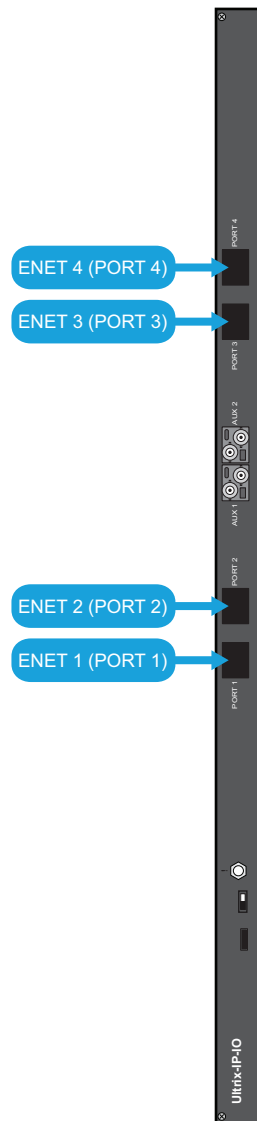

Figure 13 ULTRIX-IP-IO — PORT Connections
3. Cable your SFP+ module as required. (**Figure 13**)